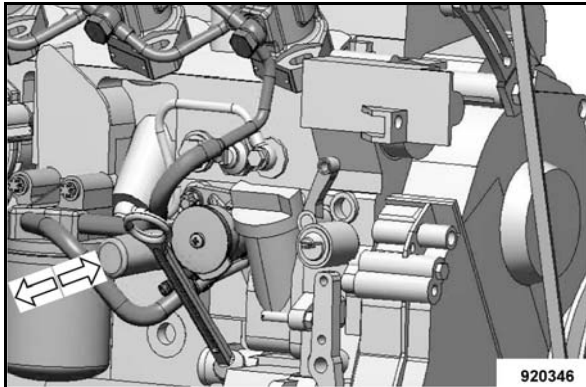

Fig. 145
- For bleeding operate the hand pump (Fig. 145) until strong resistance can be felt and pressure has built up.